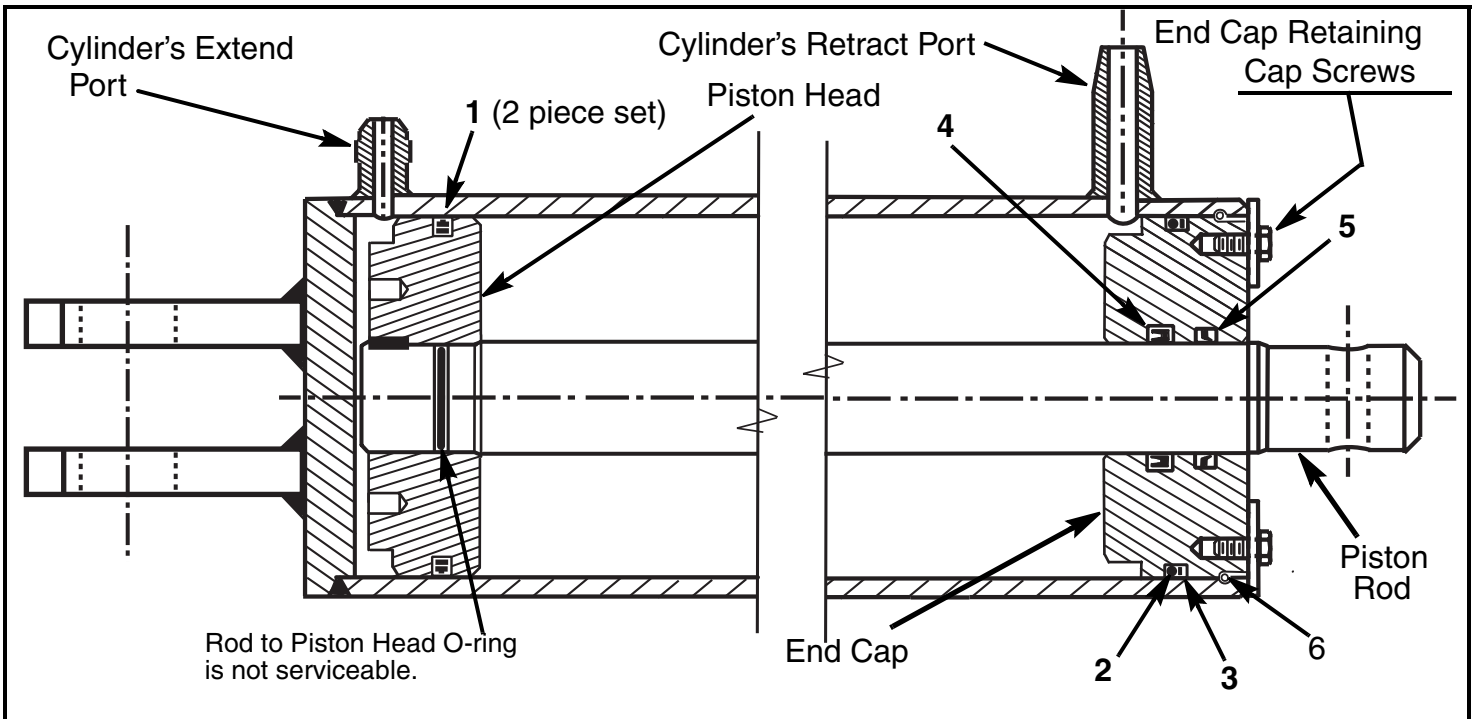

FIGURE 1
(See Figure 1)
21. Remove the two (2) end-cap retaining cap screws and flat washers that are installed on the face of the end-cap. See Figure 1.